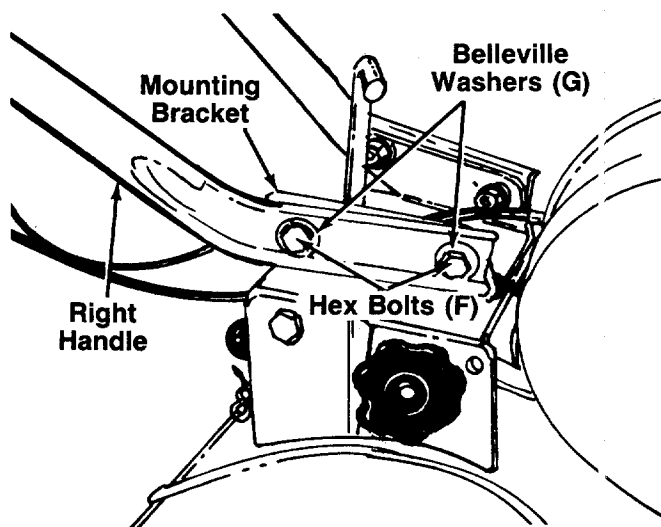

FIGURE 7.
2. Place handle assembly in position on the tiller. Working on one side of the unit, insert one hex bolt (F) through belleville washer (G) (crowned side of washer goes against head of bolt), then through bottom hole of handle and handle mounting bracket. Secure loosely with lock washer (H) and hex nut (I). See figure 7.